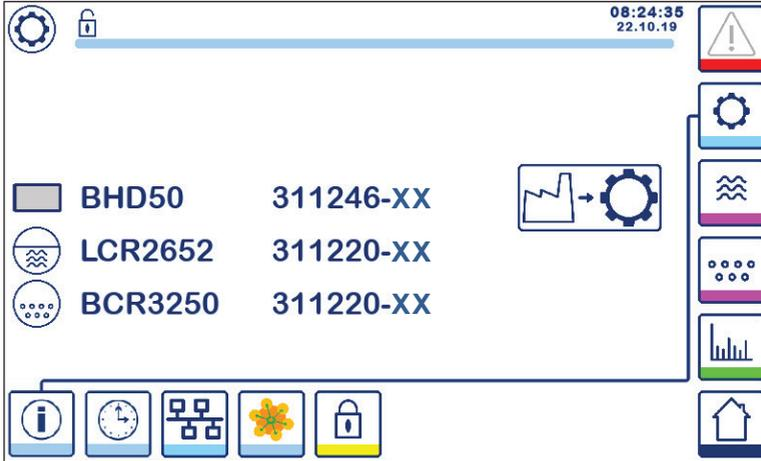

Fig. 30 Setup window
Figure 30 shows the setup window info screen showing the name of the devices in the system with the corresponding software number and software version (XX).